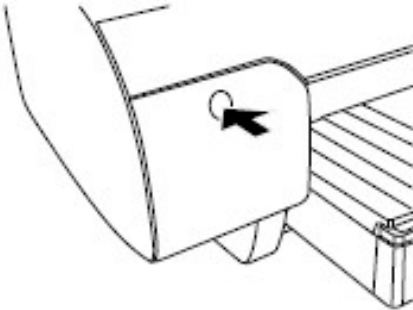
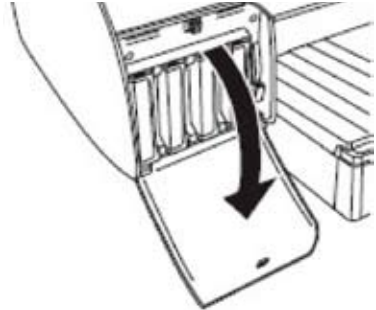

Figure 3
Figure 4
2. Press the ink compartment cover to release the latch, (Fig. 3) and open the cover. (Fig. 4)